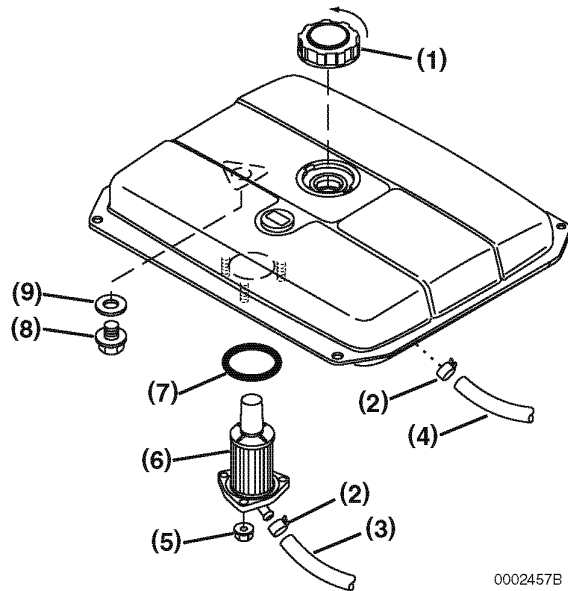

Figure 5-12
2. Remove the fuel cap (**Figure 5-12, (1)**).
3. Remove the fuel tank drain plug (**Figure 5-12, (8)**) and gasket (**Figure 5-12, (9)**) to drain the fuel. Inspect the gasket and replace if damaged. *NOTICE: ALWAYS be environmentally responsible. Follow the guidelines of the EPA or other governmental agencies for the proper disposal of hazardous materials such as engine oil, diesel fuel and engine coolant. Consult the local authorities or reclamation facility.*
4. Remove clamps (**Figure 5-12, (2)**) and disconnect fuel supply (**Figure 5-12, (3)**) and return lines (**Figure 5-12, (4)**).
6. Remove the three fuel filter nuts (**Figure 5-12, (5)**) and pull the fuel filter (**Figure 5-12, (6)**) out through bottom of the tank.
7. Install a new filter into the tank using a new O-ring (**Figure 5-12, (7)**).